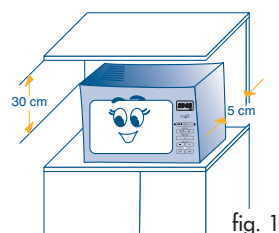

fig. 1
- 1) Unpack the oven and remove the protective packaging containing the turntable (G), turntable support (H) and accessories. Check that the turntable support (H) is correctly inserted at the centre of the turntable.
- 5) **When positioning the oven on the worktop, take care to maintain a gap of approx. 5 cm between the oven and the walls to its rear and sides and a gap of at least 30 cm above the oven (fig. 1).**